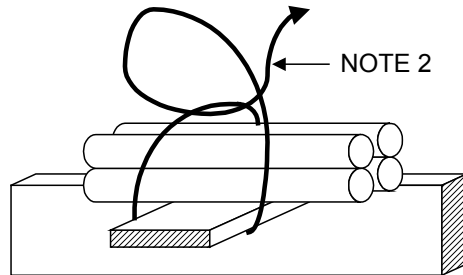

Figure 13b
2. PLACE FREE ENDS OVER TWINE AND BACK THROUGH THE LOOP (FIGURE 13b).